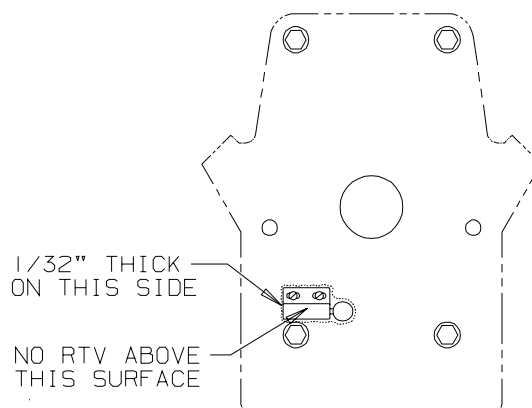

Figure 9-3
1. Remove all RTV from the MTS slide switch on the rear wall of the cab. Reapply a thin coat (less than 1/32" thick or .8 mm) to the left side of the switch, and 1/16" (1.5 mm) thick coat to the top, bottom, and right side of the switch. (See Figure 9-3.) Do not reapply RTV to the surface of the switch that faces the cab opening. Failure to complete this procedure could result in the slide opening and closing improperly.
10. Reapply a thin coat (less than 1/32" thick or .8 mm) to the left side of the switch, and 1/16" (1.5 mm) thick coat to the top, bottom, and right side of the switch. (See Figure 9-3.) Do not reapply RTV to the surface of the switch that faces the cab opening. Failure to complete this procedure could result in the slide opening and closing improperly.